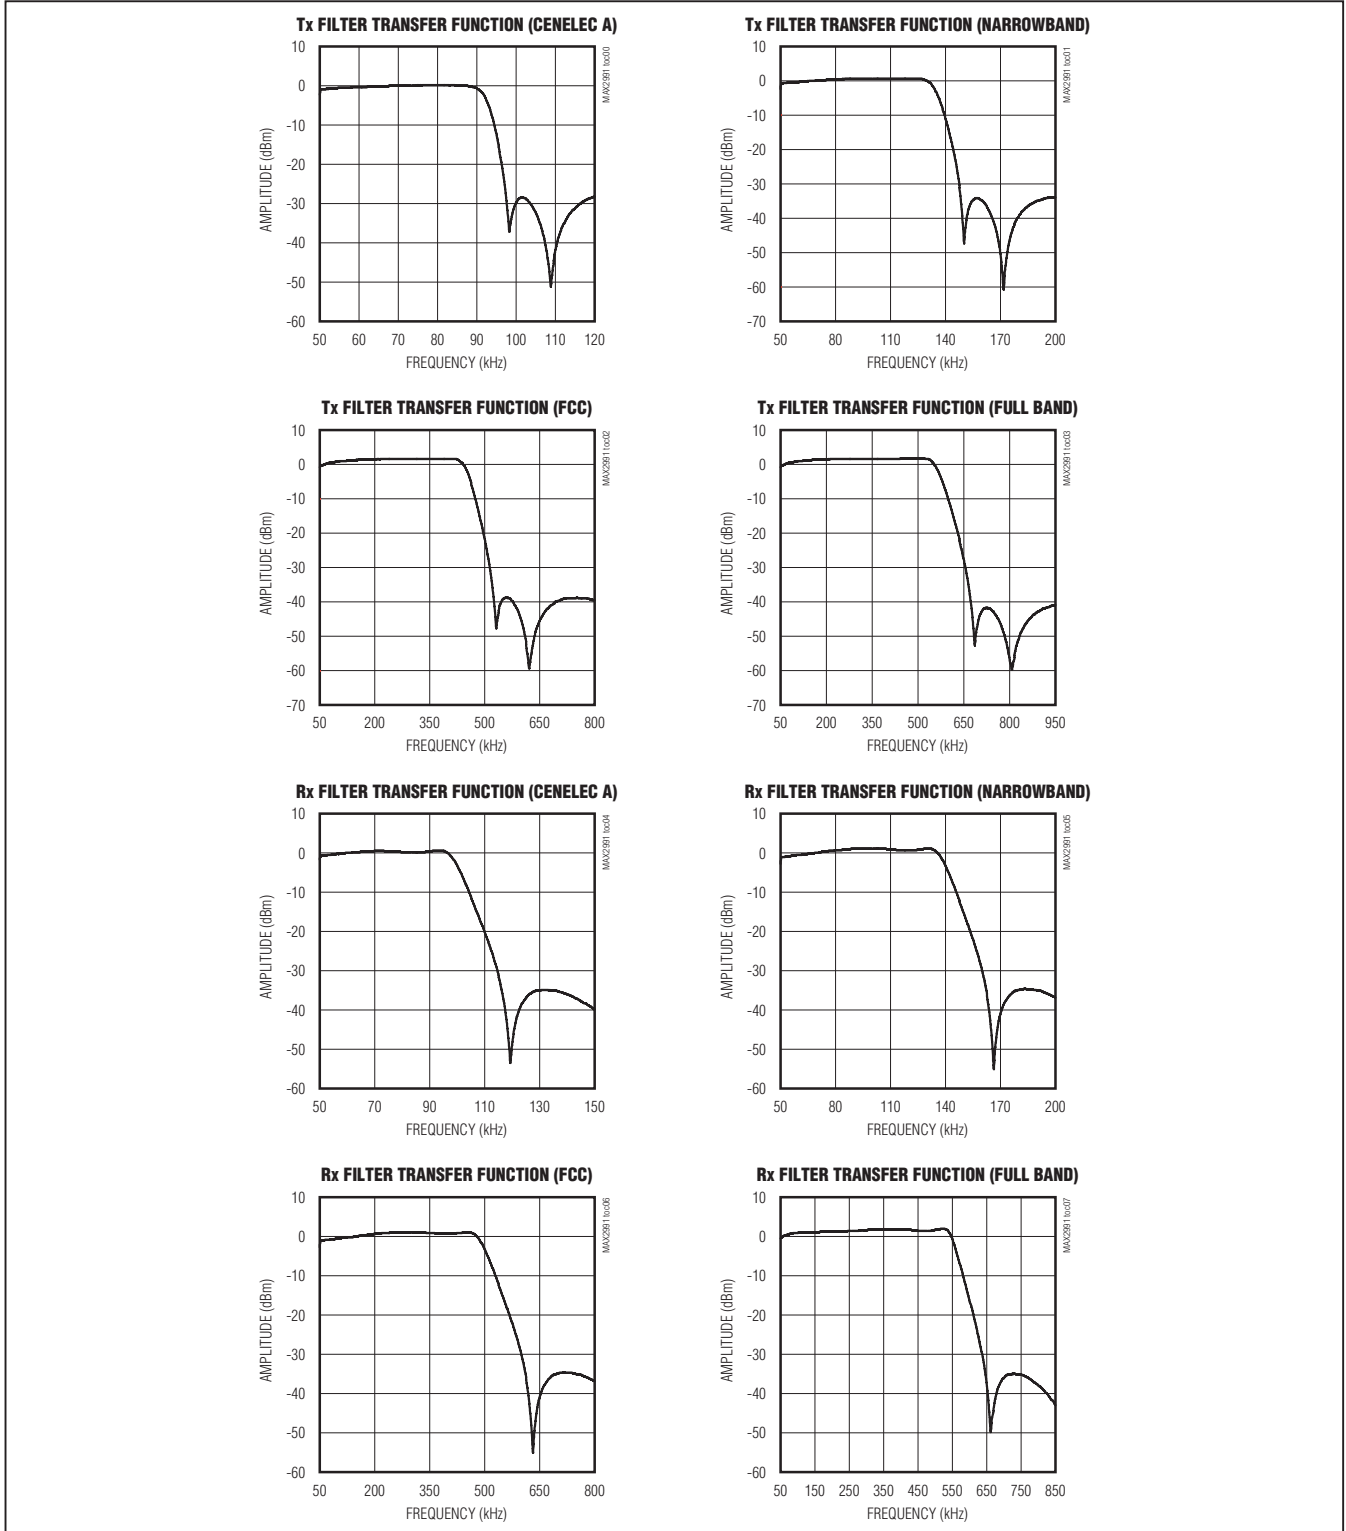

Figure 1. Rx and Tx Filter Transfer Functions for Different Bands
**Note 1:** Rx and Tx filter transfer functions for different bands are shown in Figure 1.